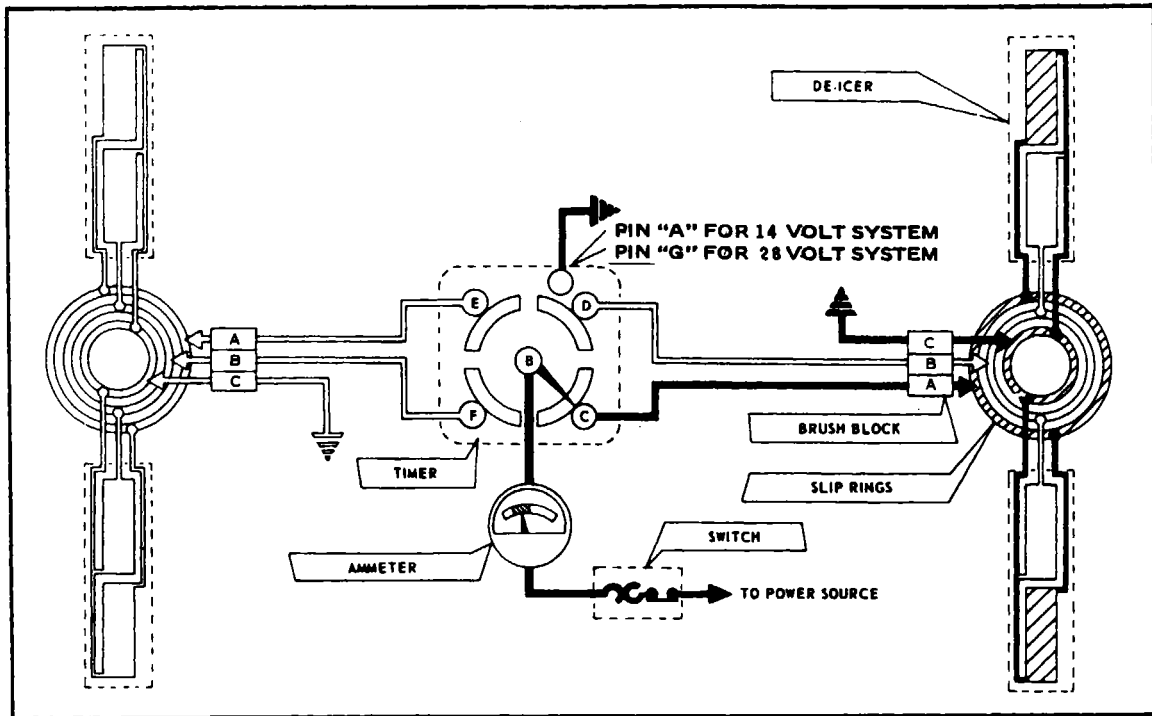
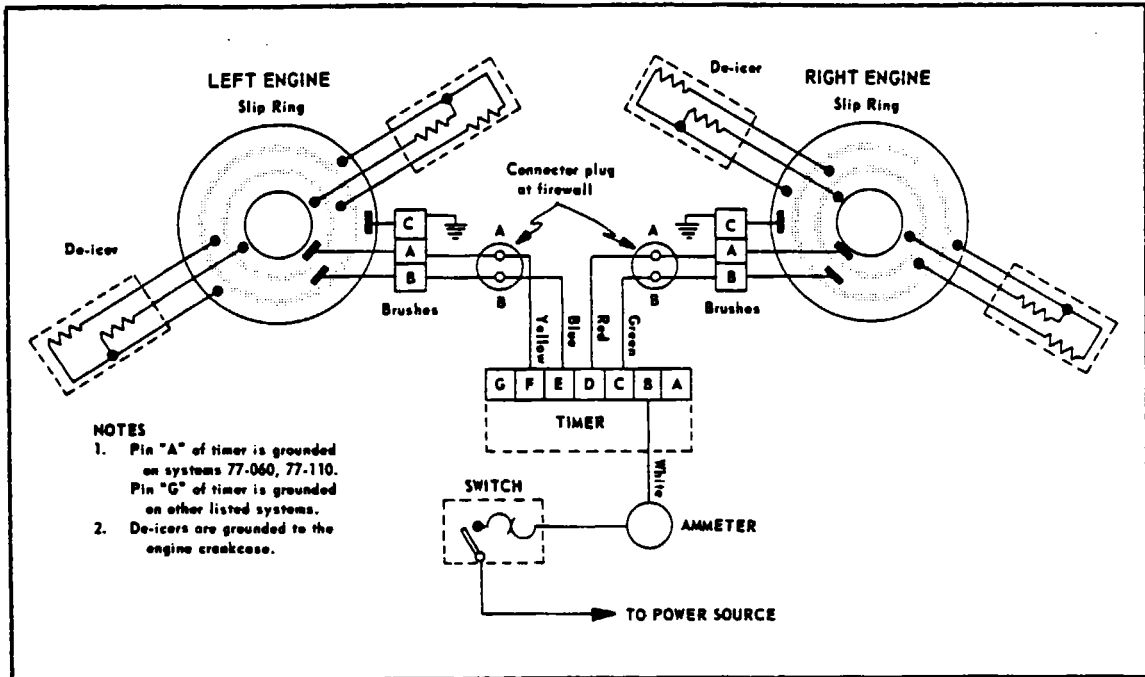
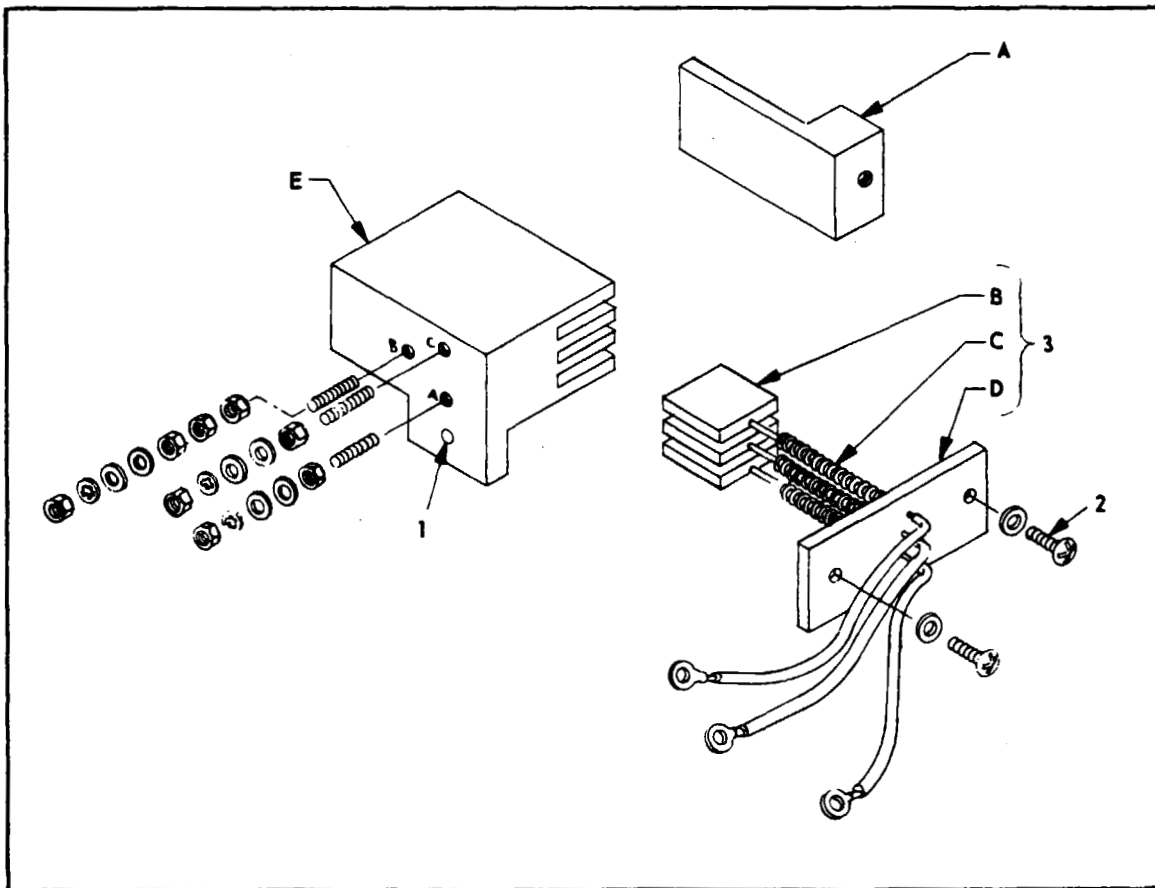
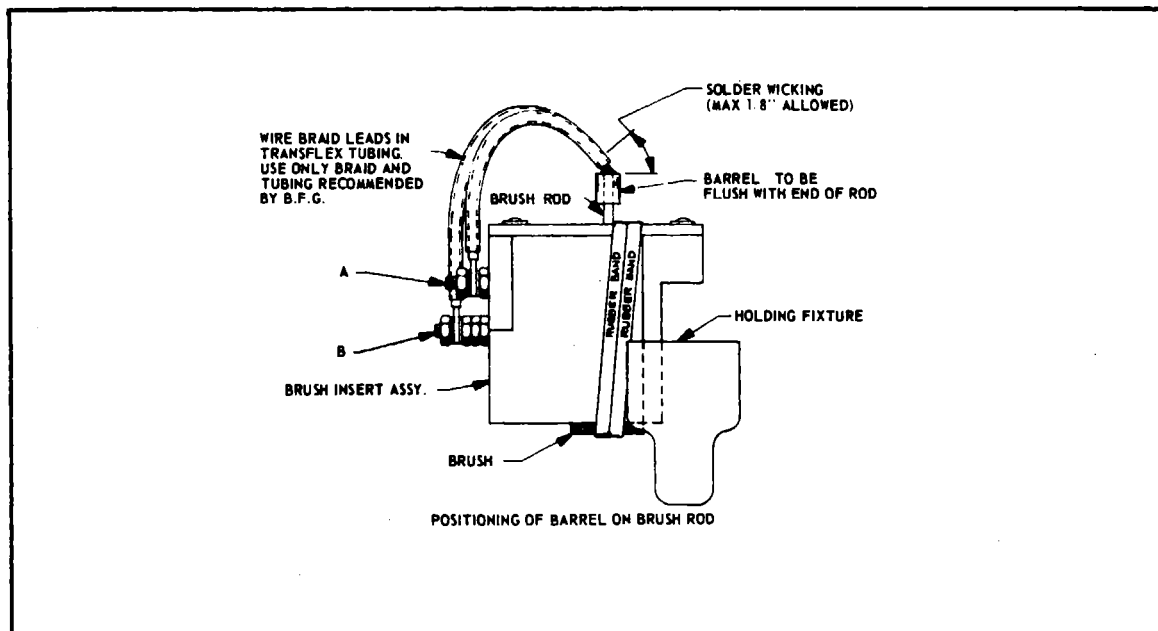

Figure 14-8. Electrical Diagram Showing Cycle Sequence, Phase 1
Figure 14-18. Schematic Wiring Diagram, PA-23-250; PA-23-235; and PA-23-250 (six place). Serial Nos. 27-2000 to 27-2504 incl.
Figure 14-20. Brush Insert Assembly,
Figure 14-22. Holding Brushes for Soldering, PA-23-250; PA-23-235; and PA-23-250 (six place), Serial Nos. 27-2000 to 27-2504 incl.
To conserve electrical power, current is cycled to the De-Icer heaters at timed intervals rather than continuously. Each De-Icer has two separate heaters, one for the outer half and one for the inner half. By heating all outer or inner heaters on only one propeller at a time, rotational balance is held during de-icing. Current is drawn from the airplane electrical system through the switch, ammeter and timer. The timer successively delivers current via the slip ring and brush block arrangement to the outer heaters on the right propeller, the inner heaters on the same propeller, the outer heaters on the left propeller and the inner heaters on the left propeller. The timer energizes each of these four phases in turn for about 30 seconds and then repeats the cycle as long as the control switch is on. The cycling sequence given is vital so that outboard heaters on each propeller operate before the inboard heaters. Refer to Figures 14-8 through 14-11 which represent a typical, not a particular, system. Correct circuit diagrams for each system are shown in Figures 14-18 and 14-19. The use of heat at the ice adhesion surface reduces the grip of the ice which is then removed by the centrifugal effect of rotation and the blast of the airstream. Note that a minimum thickness or weight of ice must build-up before centrifugal force becomes important. The system may be used continuously in flight if needed.
The wiring diagrams in Figures 14-18 and 14-19 show the brush, slip ring and De-Icer connections, which vary according to the system number at hand. Be sure to follow the wiring diagram for the specific system involved.
14-40. BRUSH REPLACEMENT AS SUB-ASSEMBLY. (PA-23-250; PA-23-235 and PA-23-250 (six place), Serial Nos. 27-2000 to 27-2504 incl.) (Refer to Figure 14-20.) Dismount the brush insert assembly by taking out the mounting screws and associated hardware at the point labeled (1). Disconnect brush leads at the studs noting the studs to which the leads of the top, middle and bottom brushes are connected. Now take out the screws (2) and associated washers to pull out the brush retainer assembly (3) which includes the brushes, springs and the retainer. Slip the brushes of the new sub-assembly into the slots of the holder and mount the new sub-assembly with screws (2) and associated washers. Connect the brush leads to the studs exactly as noted in removal and check against the wiring diagrams in Figures 14-18 and 14-19 if in any doubt. Mount the brush insert assembly with the screws and associated hardware at (1). (Refer to Paragraph 14-44.)
14-42. REPLACING INDIVIDUAL BRUSHES. (PA-23-250; PA-23-235; and PA-23-250 (six place), Serial Nos. 27-2000 to 27-2504 incl.) Remove brush insert assembly by taking out screws at point labeled (1) of Figure 14-20 and associated hardware. Use tape or rubber band to hold brushes in place while the assembly is gently locked in a vise. (Refer to Figure 14-22.) With soldering gun or iron, free soldered lead and barrel from end of brush rod of brush to be replaced. Loosen tape or rubber band to draw out the old brush and its spring. Install new spring and brush, hold with rubber band or tape. Now solder barrel and brush lead to end of brush rod - barrel must be flush with end of brush rod. (Work on one brush at a time and use the undisturbed brush rods adjacent to see how barrel is to be set.) In this step, see that width of braid lead lies parallel to the retainer plate. Avoid excess solder that would stiffen brush lead - 0.125 of an inch "wicking" is maximum allowable. Brush rods must be free of solder between "B" barrel and brush. (Refer to Paragraph 14-44.)